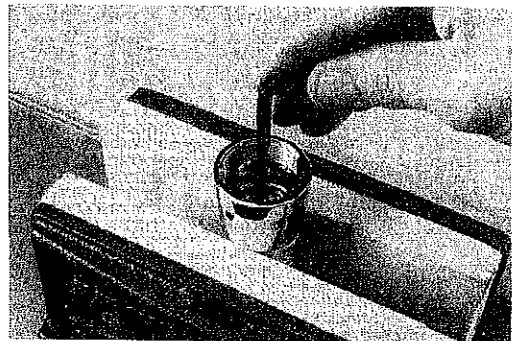

Fig. 7A
- 19a. Secure the swivel in a padded vise, with the open end of the piston cap facing up. (See fig. 7A.) Examine the swivel retainer(34) to determine whether it requires the use of a 3/16" hex-drive socket or an 11/16" nut-drive socket. Install the appropriate tool onto a socket wrench.